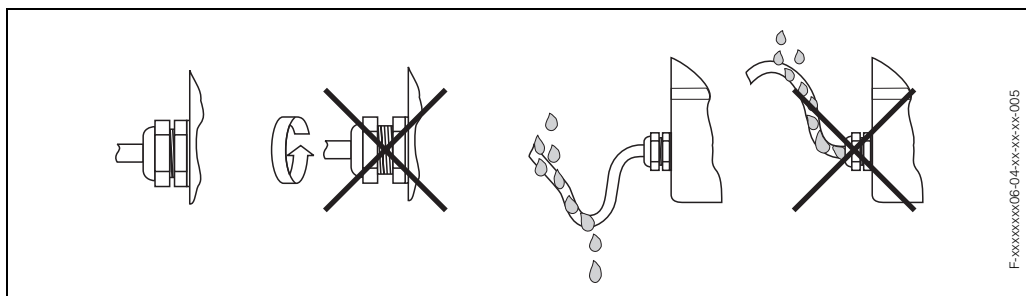

Fig. 21: Installation instructions for cable entries
- Firmly tighten the cable entry (Fig. 21).
- The cables must loop down before they enter the cable entries ("water trap", Fig. 21). This arrangement prevents moisture penetrating the entry. Always install the measuring device in such a way that the cable entries do not point up.